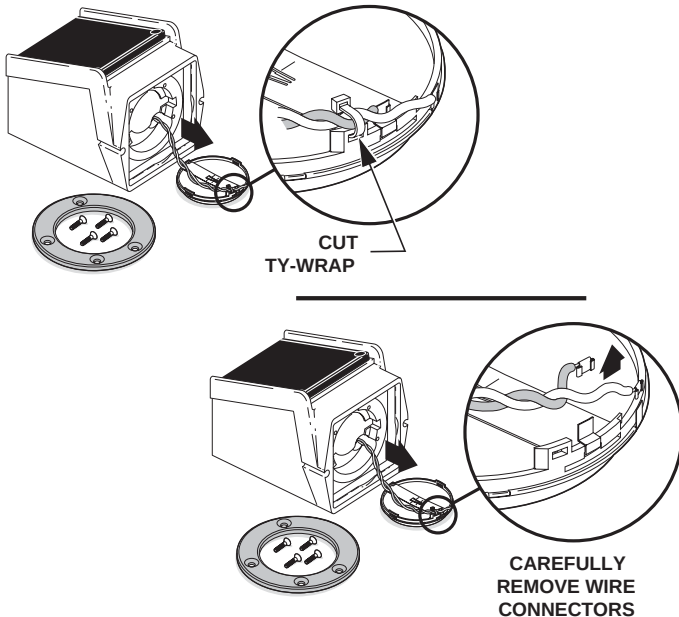

Figure 11-13. Remove Transducer, Cut Ty-Wrap, and Remove Connectors
3. Gently pull out the Transducer and use a **SMALL** pair of dikes to gently cut the Ty-Wrap then remove the small wire connectors from their tabs (Figure 11-13).